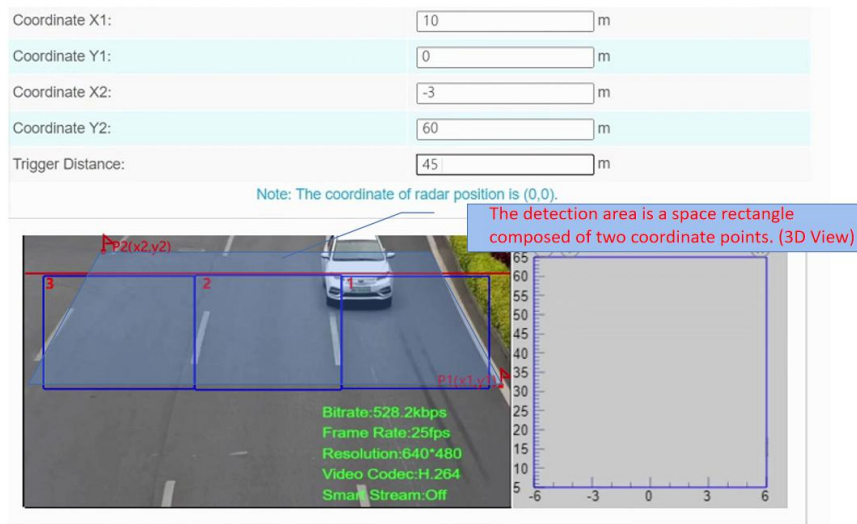

Figure 9 Set Detection Region
1. As shown in the figure below, there are two coordinate points (figure 9). Points P1 and P2 are used to facilitate the user's spatial positioning.
e.g.: You can adjust the position of P1, P2 by mouse, as shown in the figure below (figure 9), move the P1 point to the white traffic line in the lower right corner, then you need to measure the horizontal and vertical distance from the camera to the actual position corresponding to the P1 point. Similarly, please complete the distance measurement of point P2.